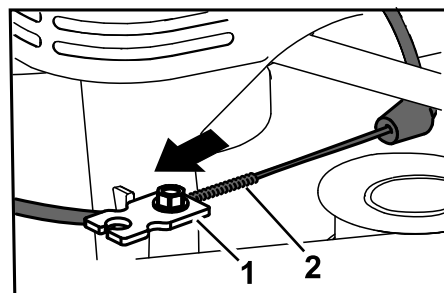

Figure 43
6. Pull the cable jacket to remove slack (Figure 43).